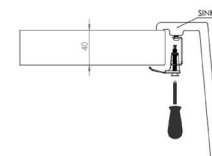

Figure 5
- Position the bottom of the mounting clip so that it is gripping the countertop. Use a screwdriver to tighten the screw until the mounting clip is snug against the countertop (Figure 5).